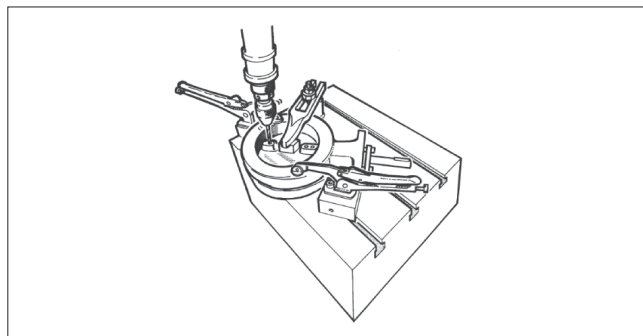

Fig. 12 Drilling the pins
- Remove the clamp ring (2) and seat ring (4) according to section 5.
- Set the valve horizontally on a sturdy surface so that the flat side of the disc lays against the surface (see Fig. 12).